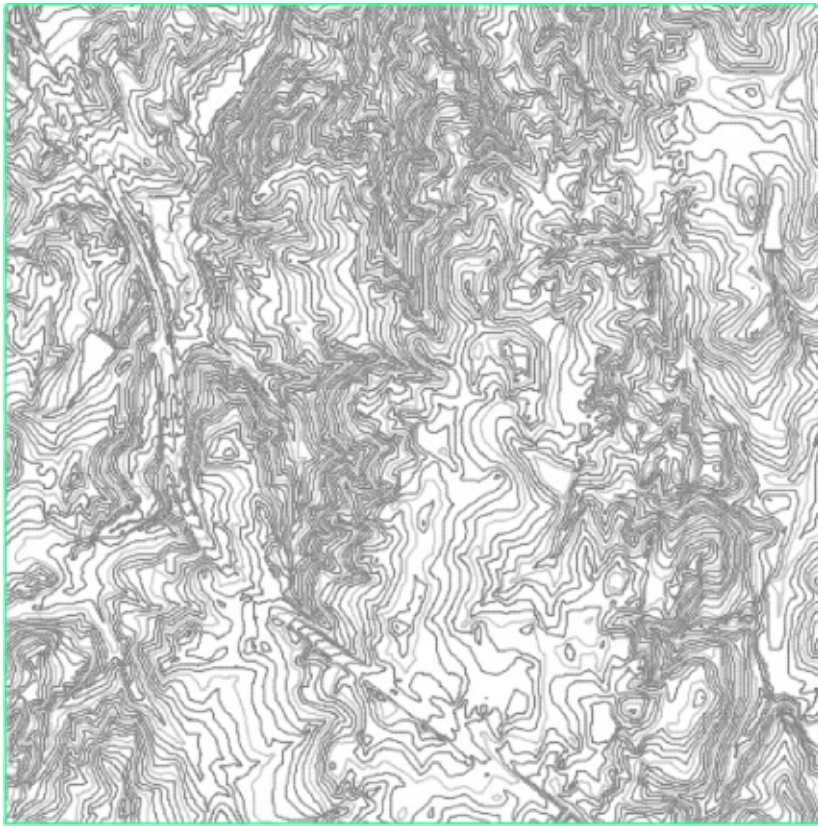

Figure 4.23 The finished imported GIS contours
11. Dismiss Panorama and zoom extents to see the surface based on the SHP file (Figure 4.23). If the Level Of Detail Display setting is still on from the previous exercise, turn it off (View tab > Views panel expanded > Level Of Detail).